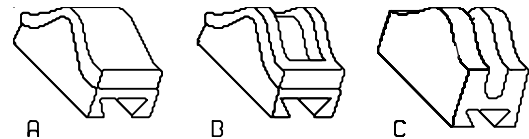

Figure 2
1. Choose an adapter head for the type of fiber to be tested. The F6121A is supplied with three adapters (as shown in Figure 2): (A) *foam-covered*, to accommodate 900 μm buffered fiber; (B) *smooth-surfaced with foam perimeter*, for use with ribbon fiber or a 250 μm coated fiber; and (C) *slotted*, for 3 mm and *optional* 2 mm jacketed fiber (i.e., pigtails and jumpers) or loose tube fiber.